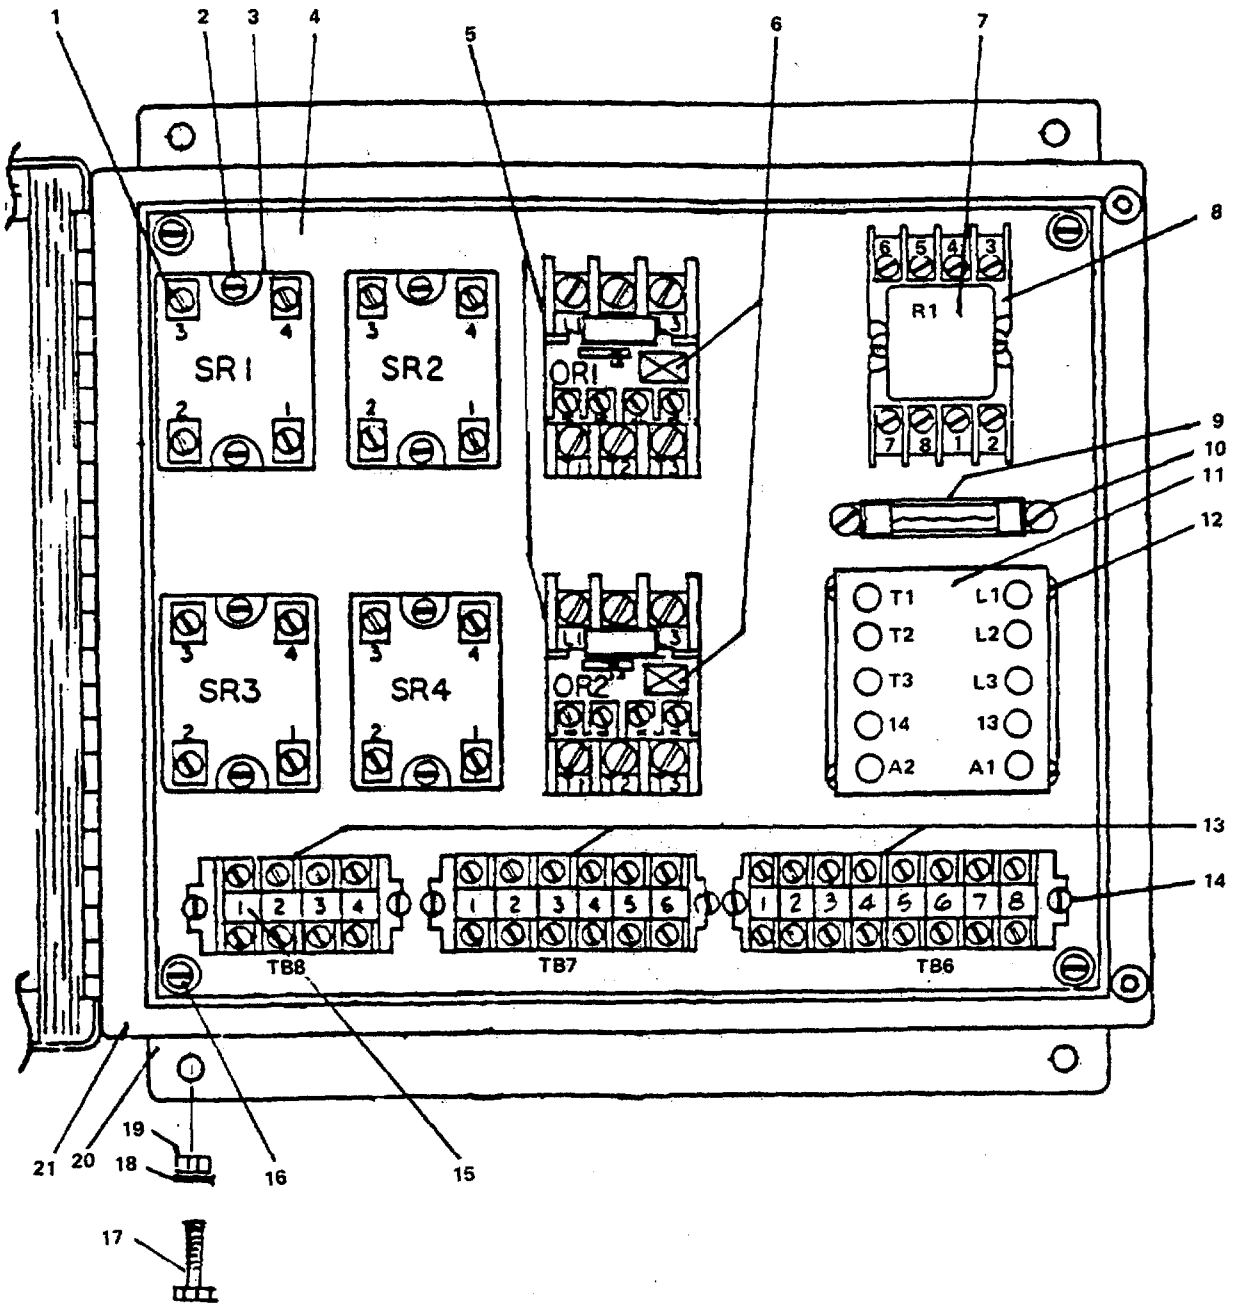

FIGURE 3-19. Motor Control Box Assembly.
**3-23. Repair Motor Control Box Assembly. (Figure 3-19)**